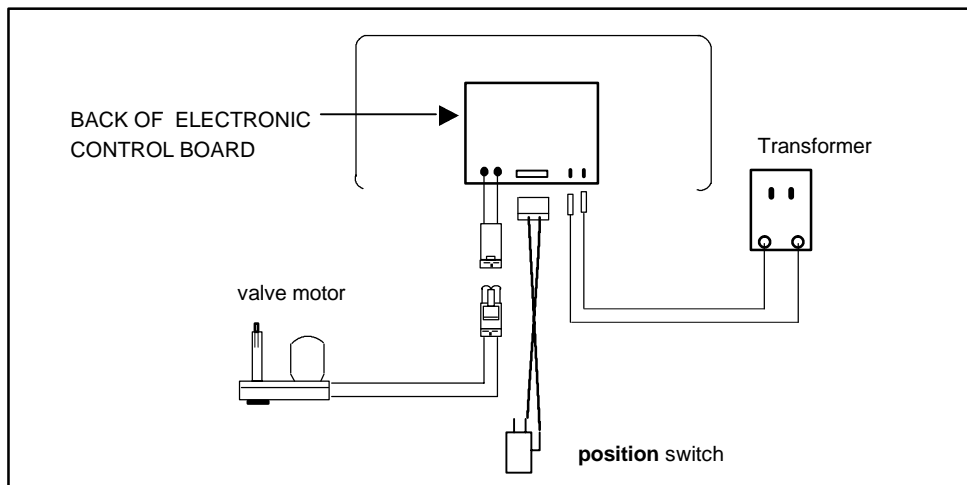

Figure 1
3. Unplug wire harness from position switch. **See figure 1.**
4. Unplug motor terminals and power supply terminals from back of electronic control board. **See figure 1.**
5. Lay cover facedown and carefully replace the power supply cord by plugging the power supply terminals to the back of electronic control board. Plug position switch wire harness back onto switch under the motor. **See figure 1.**
6. Plug the motor terminals back onto the electronic control board. **See figure 1.**